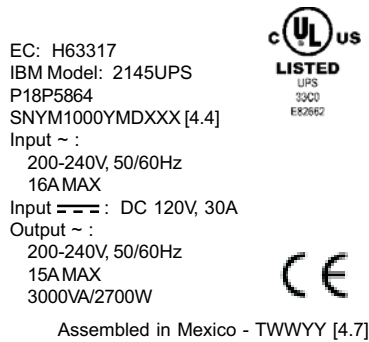

Figure 6. Agency label for the uninterruptible power supply
1. Agency label. See Figure 6.